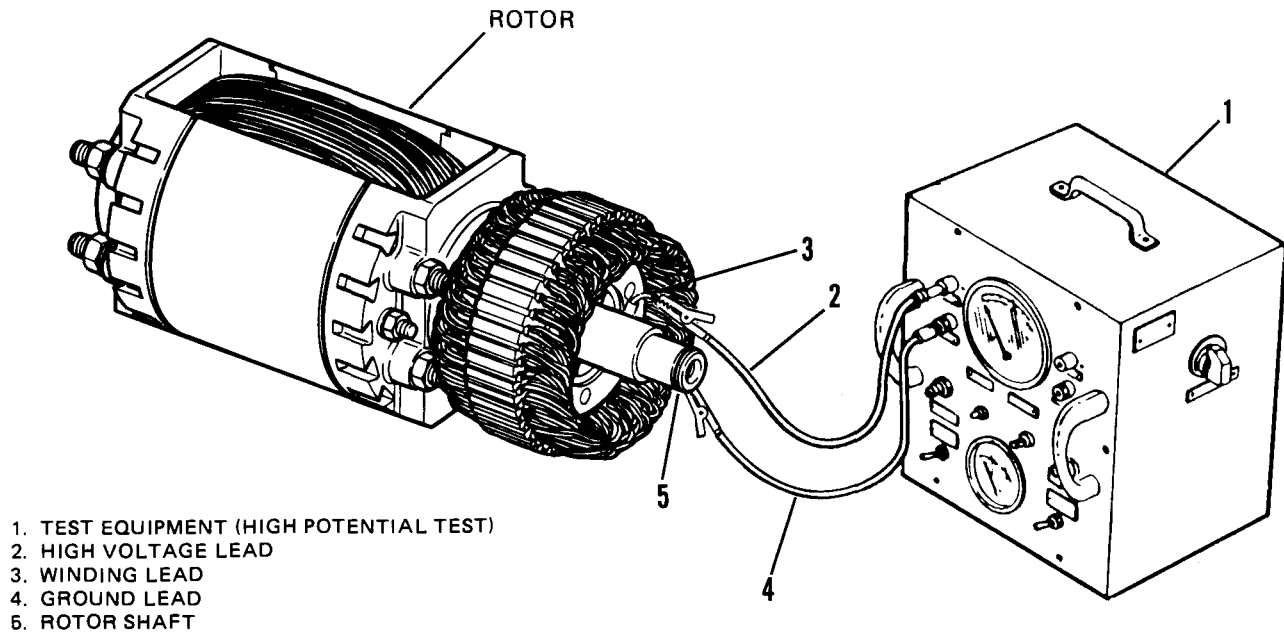

Figure 5-6. Rotor Insulation Test.
- 1 Adequately ground high potential test equipment (1, Figure 5-6) to a water pipe or similar electrical ground in accordance with instructions accompanying the test equipment.
- 3 Connect the high voltage lead (2, Figure 5-6) of the test equipment to the winding (3) under test.
- 4 Connect the ground lead (4) (or grounding bed) to the rotor shaft (5).